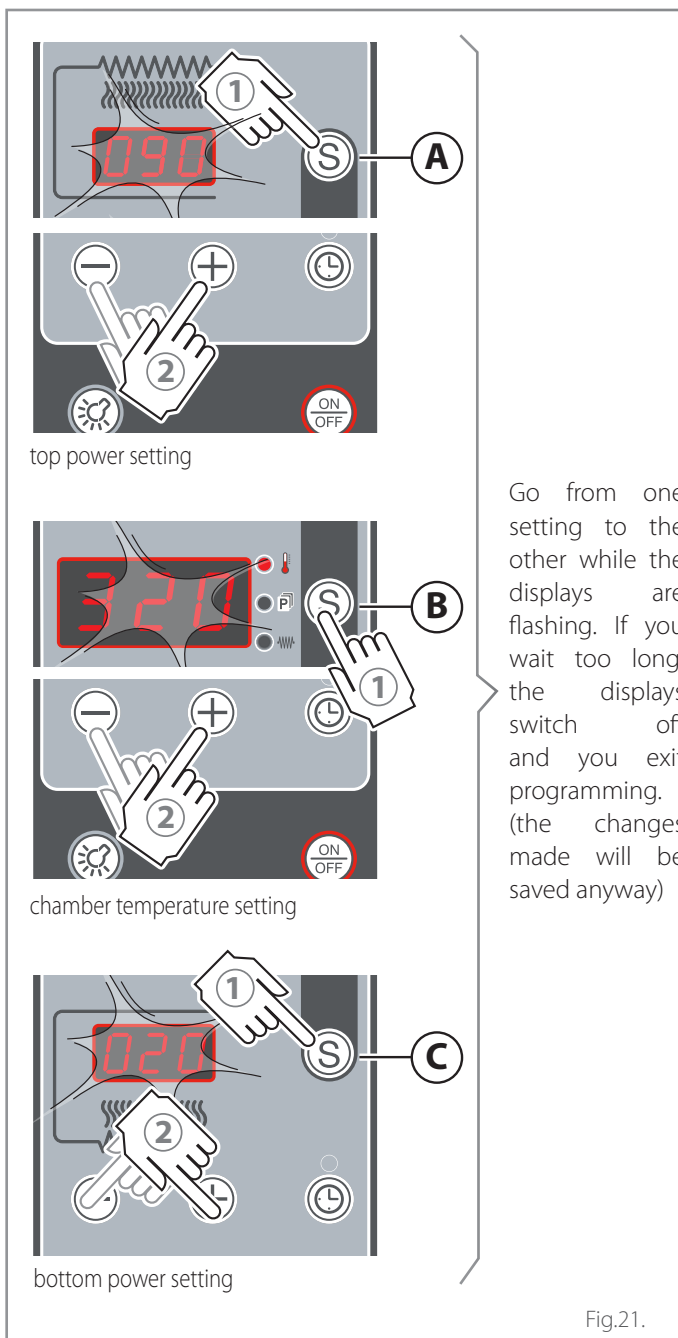

Fig.21.
- ① **With the oven switched off**, keep key **(S)** pressed for 4 seconds (all displays light up).
- ② Press the key again **(S)**; the display **(B)** shows the program being worked on and the program LED **(P)** lights up.
- ③ Using the keys "+" and "-", scroll the programs until you find the one you wish to change.
► Fig.21.